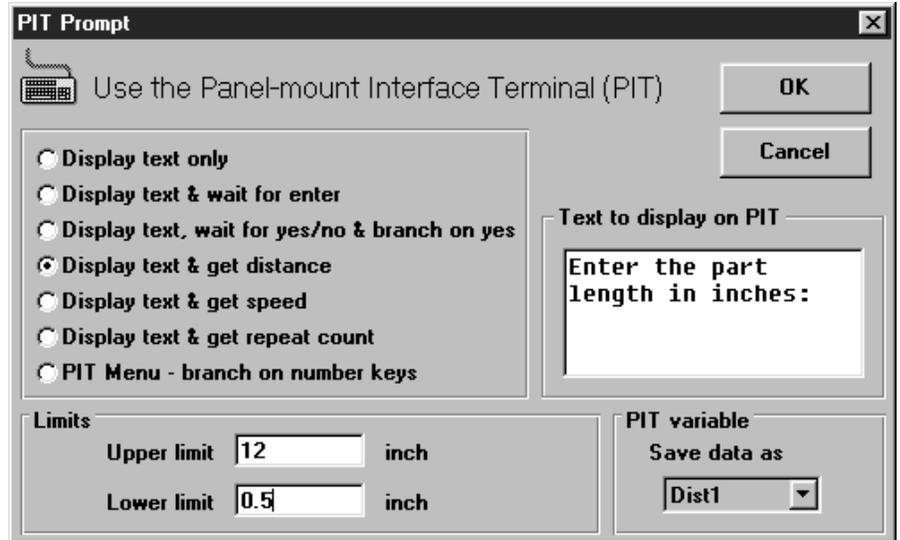

Figure 36 - PROMPT USER FOR MOVE DISTANCE
**TO ASK THE USER FOR A MOVE DISTANCE (see Figure 36)**